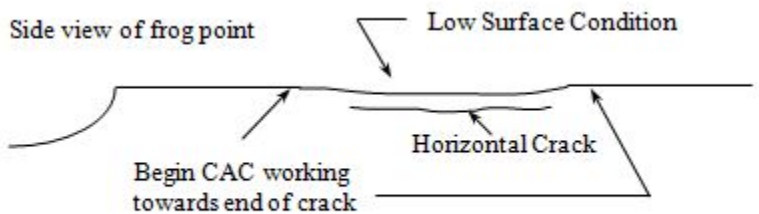

Figure 109D *Repair Area (side of point view)*
- To properly remove defective metal, remove metal at each end of the crack and work back toward damaged metal and crack. Cutting from both ends of a horizontal crack may allow for the removal of a single piece of metal. (See Figure 109D)